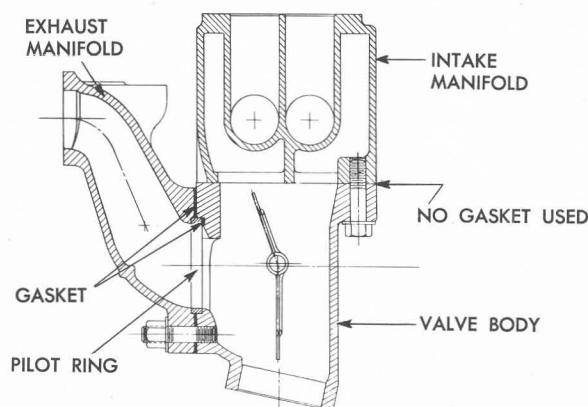

Figure 3-22—Sectional View of Joints Between Valve Body and Manifolds
1. Install the valve body on the exhaust manifold with a new ring gasket in pilot ring recess in body and a new gasket between body and manifold; make sure that pilot ring is in place. See figure 3-22. Leave attaching stud nuts snug but not tight.